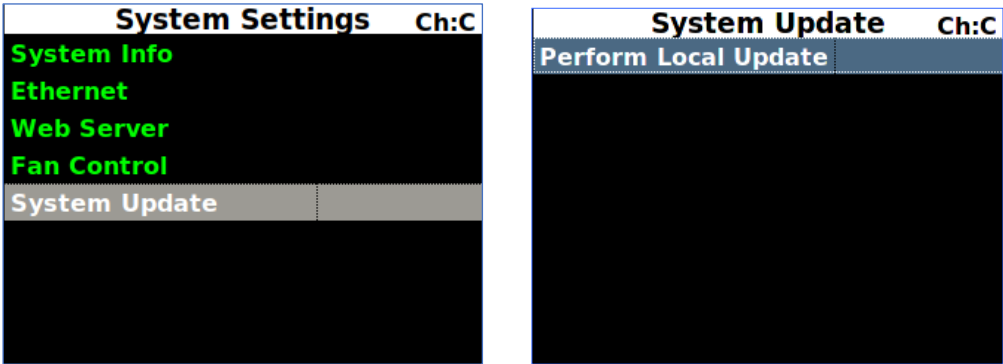

Figure 166: System Update, Perform Local Update Selection
3. Access the System Update screen, as shown in Figure 166. Press the Enter key.